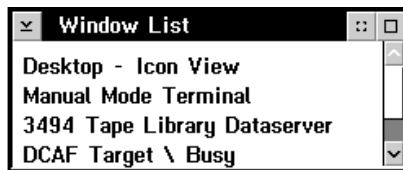

Figure 162. Window List
2. Select **DCAF Target** with the pointing device. See Figure 162.